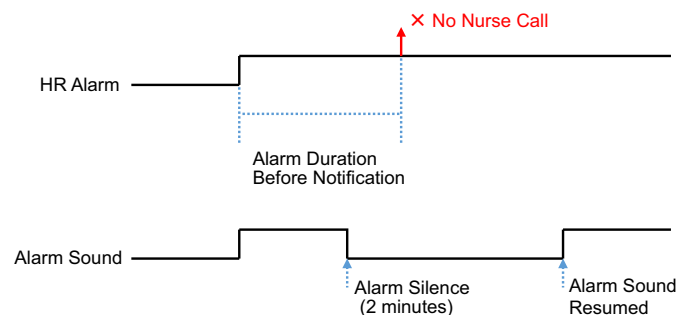

Figure 3: When the alarm is silenced during the preset "Alarm Duration Before Notification"
- When the alarm is silenced during the preset "Alarm Duration Before Notification", the alarm will not be notified to nurse call (Figure 3).